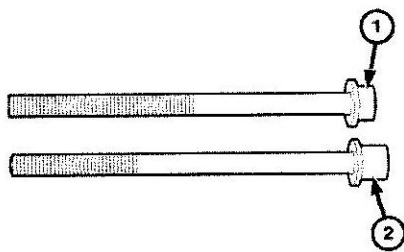

Figure 1. Bolt Head Length Comparison
CAUTION: This engine was built with 2 different style cylinder head bolts. Each style bolt requires a different torque value. The bolts can be identified by the short bolt head (1) and the long bolt head (2) as shown in Figure 1.